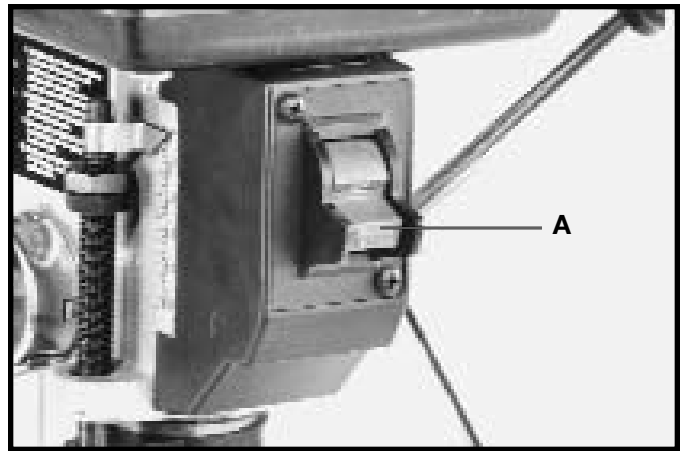

Fig. 18
The switch (A) Fig. 18, is located on the front of the drill press head. To turn the drill press **“ON”** move the switch to the up position. To turn the drill press **“OFF”** move the switch to the down position.